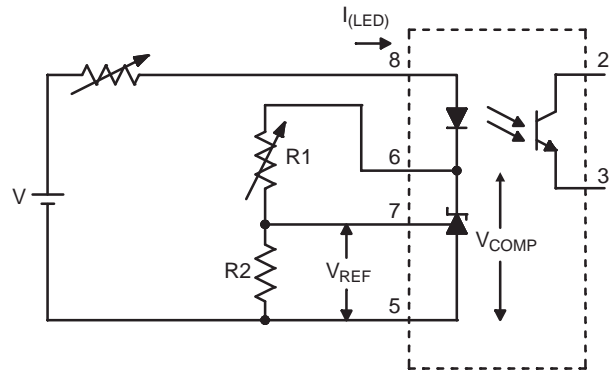

Figure 3. $\Delta V_{REF} / \Delta V_{COMP}$ Test Circuit
5. The dynamic impedance is defined as $|Z_{OUT}| = \Delta V_{COMP} / \Delta I_{LED}$. When the device is operating with two external resistors (see Figure 3), the total dynamic impedance of the circuit is given by: